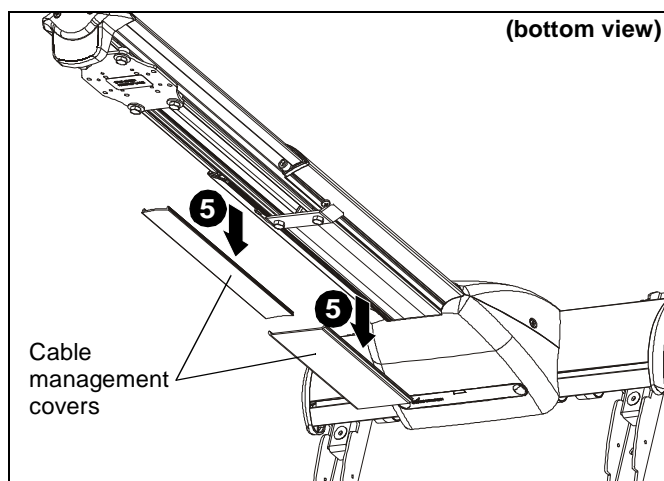

Figure 27
- Remove cable management covers (if necessary) from short throw projector arm. (See Figure 27)